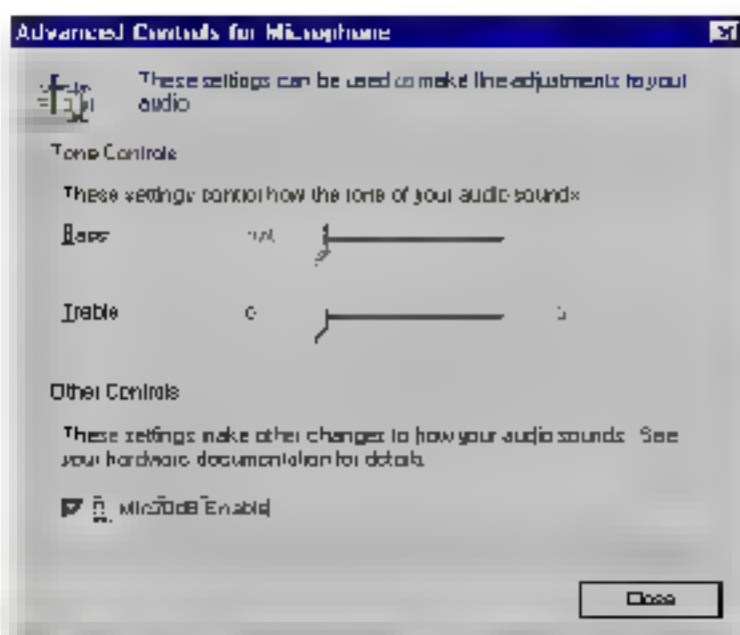

Figure 3-3 The Advance Controls for Microphone windows
- 5) The Advanced Control for Microphone window will now appear as shown in Figure 3-3 below. Adjust the Bass and Treble as desired by dragging the slide bars horizontally. If you wish to enable the Mic20dB setting for your microphone, then click on Mic20dB Enable.